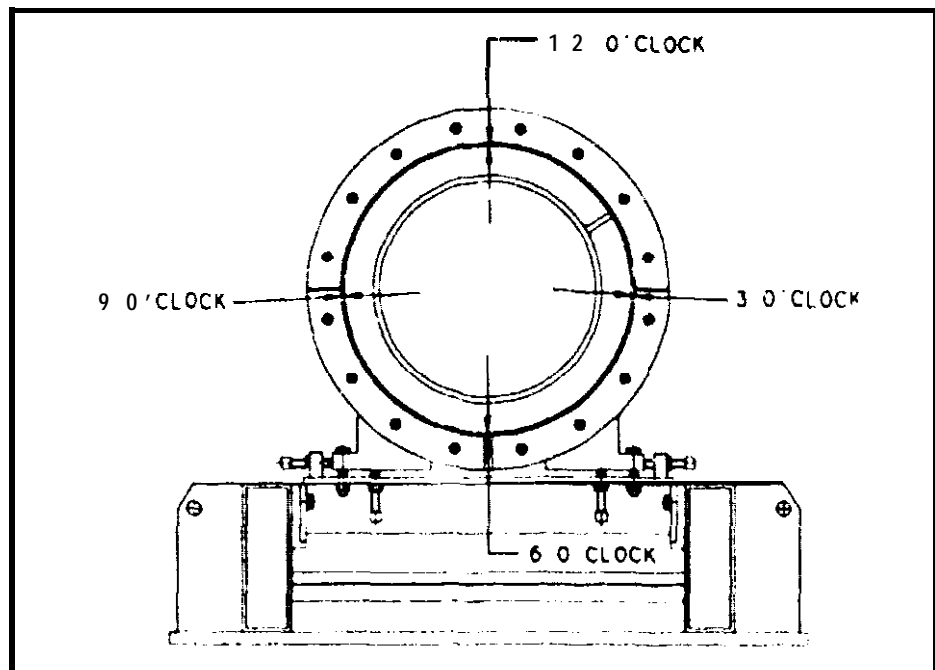

Figure 4.1-1
1. Measure the distance from the shaft **flighting** to the cage screen with a depth gauge or feeler gauge, as previously described. Measure the clearance at the 12, 3, 6, and 9 o'clock positions (see Figure 4.1-1) at each end of each cage section.